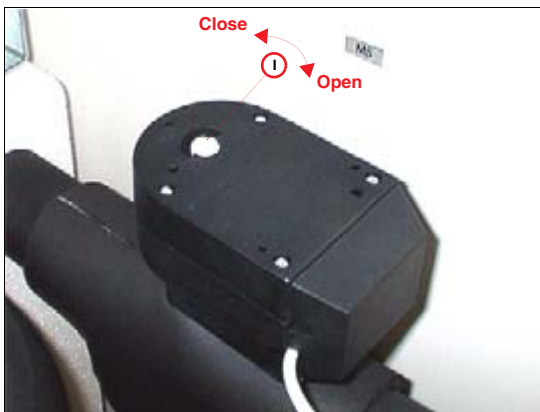

Fig. 17: Example of Adjustment drive
3. Open and close both 3-way valves approx. 10 times. A valve can be opened and closed by turning the white screw of the adjustment drive CW (open) or CCW (closed) with a 5 mm Allen key (1/Fig. 17 / p. 21).